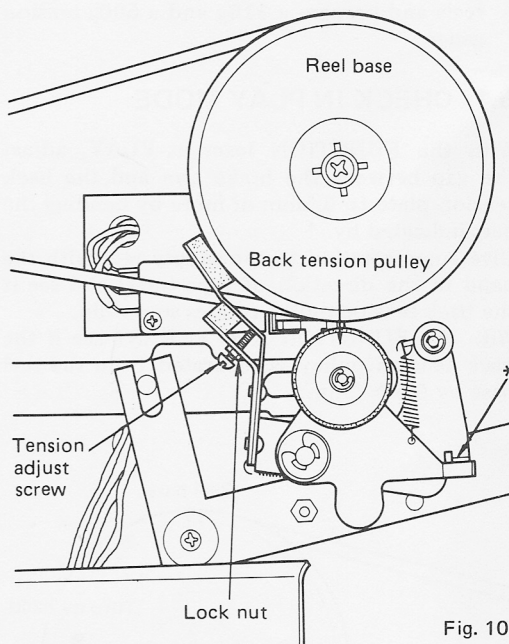

Fig. 10
3. If the shaft contacts vertically, adjust by bending the * marked part in Fig. 10. This adjustment is related to the PLAY adjustments.
5. If the tension is not as specified, adjust by rotating the adjust screw (Fig. 10).